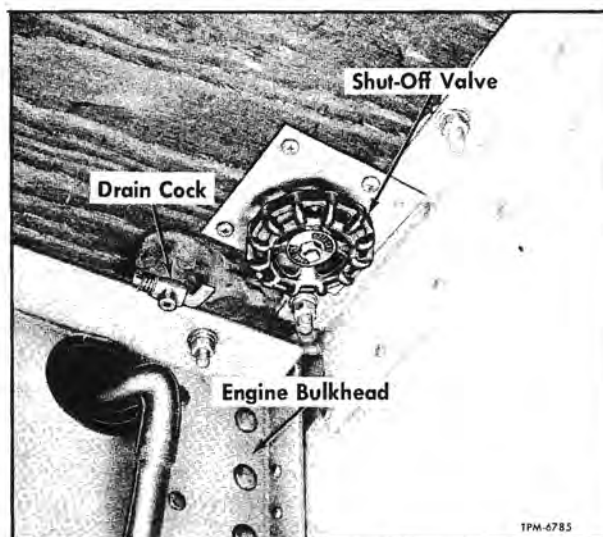

Figure 9—Shut-Off Valve and Drain Cock At Engine Bulkhead (Transit Model)
4. On a transit coach, drain cock (fig. 9) near heater line shut-off valve, to drain supply line between engine and heating system pump.